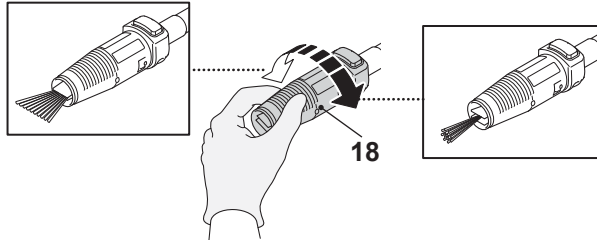

Fig. 9
- > Turn the vario nozzle to adjust the water jet according to the surface to be cleaned (Fig. 9).